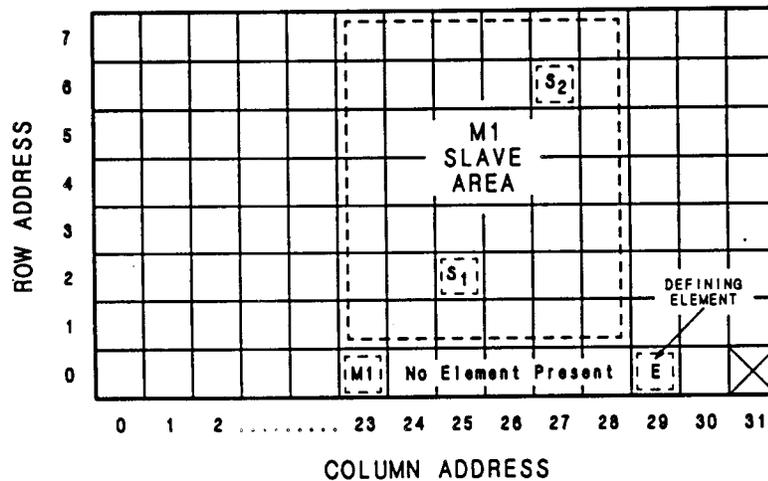

Figure 2-9. Master/Slave Addressing
The slave area of the master is the area the master controls on the address matrix. (See Figure 2-9.) To determine its slave area, the master searches for an element that defines the boundaries of the slave area.
The master starts searching at its own address column, which is one row above its row address. It searches up the column until it reaches the top. Then it continues the search one column address higher, starting at its own row address. For example, master M1 in Figure 2-9 would start searching at row 1, column 23, one row above its address. When it reaches the top of column 23, it searches up column 24, starting at row address 0. The search continues until the master either finishes searching the entire address matrix or finds the defining element.
1. It must be in a column that is greater than the column address of the master. In Figure 2-9, the master is in column 23, so the defining element for this master must be in column 24 or above.
2. It must be in a row that is the same as or less than the row address of the master. In Figure 2-9, the master is in row 0, so the defining element for this master must be in row 0.
For the master shown at row 0, column 23 in Figure 2-9, the defining element is at row 0, column 29.
1. The left-side boundary equals the column address of the master. In Figure 2-9 this is column 23.
2. The right-side boundary equals a column address one less than the column address of the defining element. In Figure 2-9 this is column 28. If there is no defining element, the side boundary extends to and includes column 31.
3. The bottom boundary is always one row greater than the row address of the master. In Figure 2-9 this is row 1.
If a new element is added to the area labeled "No Element Present" in Figure 2-9, this element becomes the new defining element and the right-side boundary will move toward the master.